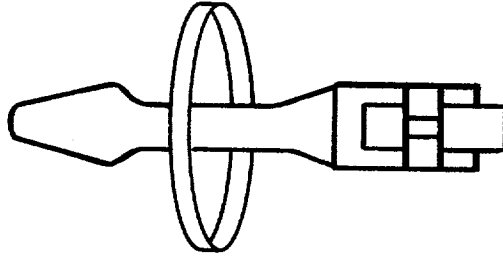

FIGURE 4-68a. Connecting Rod Magnetic Check.
- (12) Set up magnaglo tester for coil shot method. Apply coil shot amperage (ampere turns) between 2600 and 2800 dc or rectified ac (FIG. 4-68a). Check for cracks.